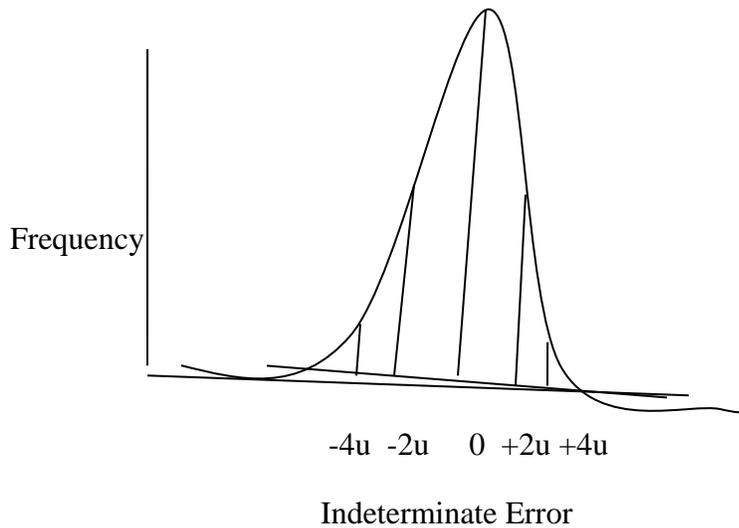

Figure 2.1 Frequency of Error vs. Indeterminate Error
- Indeterminate errors in chemical analysis distribute themselves in a way that approximates the Gaussian curve and it allows statistical techniques to be used in estimating the limits of precision of indeterminate errors from the precision of chemical data. Figure 2.1 can be described mathematically as follow: $y = e^{-(x-\mu)^2/2\sigma^2}/\sigma\sqrt{2\pi}$ (1)